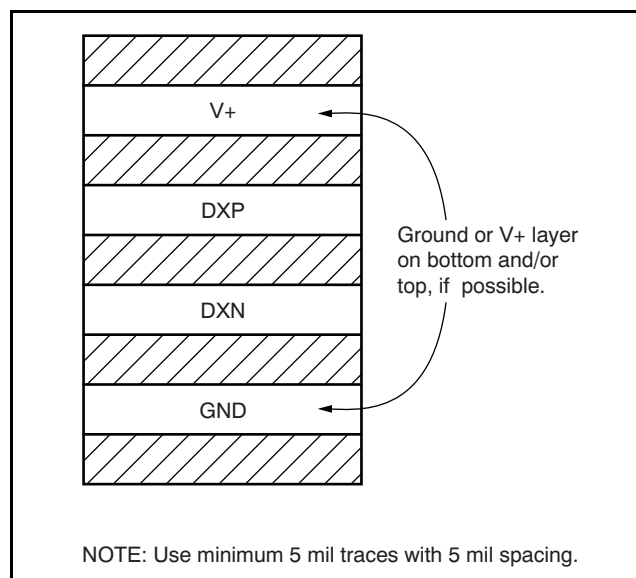

Figure 19. Suggested PCB Layer Cross-Section
2. Route the DXP and DXN traces next to each other and shield them from adjacent signals through the use of ground guard traces, as shown in Figure 19. If a multilayer PCB is used, bury these traces between ground or V_{DD} planes to shield them from extrinsic noise sources. 5 mil (0.005 in, or 0,127 mm) PCB traces are recommended.